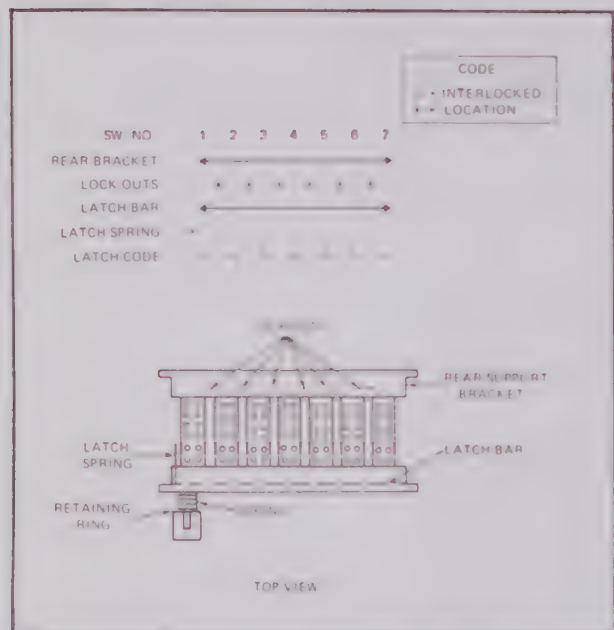

Figure 4-4. RANGE SWITCH ASSEMBLY
| <p>a. Unplug P14 (flexible plug in circuit plug) from J14.</p> <p>b. Remove U2 and U3, on Display PCB, from their sockets.</p> <p>c. Remove four (4) mounting screws which secure RANGE switches to switch assembly brackets.</p> <p>d. Pull FUNCTION switch assembly, with brackets, away from RANGE switch assembly.</p> | <p>e. Desolder and remove J14 connector from Display PCB.</p> <p>f. Straighten all locking tabs on rear support bracket. (Figure 4-4.)</p> |
- i. Insert a tool between the latch bar and switch shaft on adjacent switch (Figure 4-4).
- e. Install new switch module by reversing foregoing procedure. Refer to Figure 4-4 for assembly of RANGE SWITCH assembly.